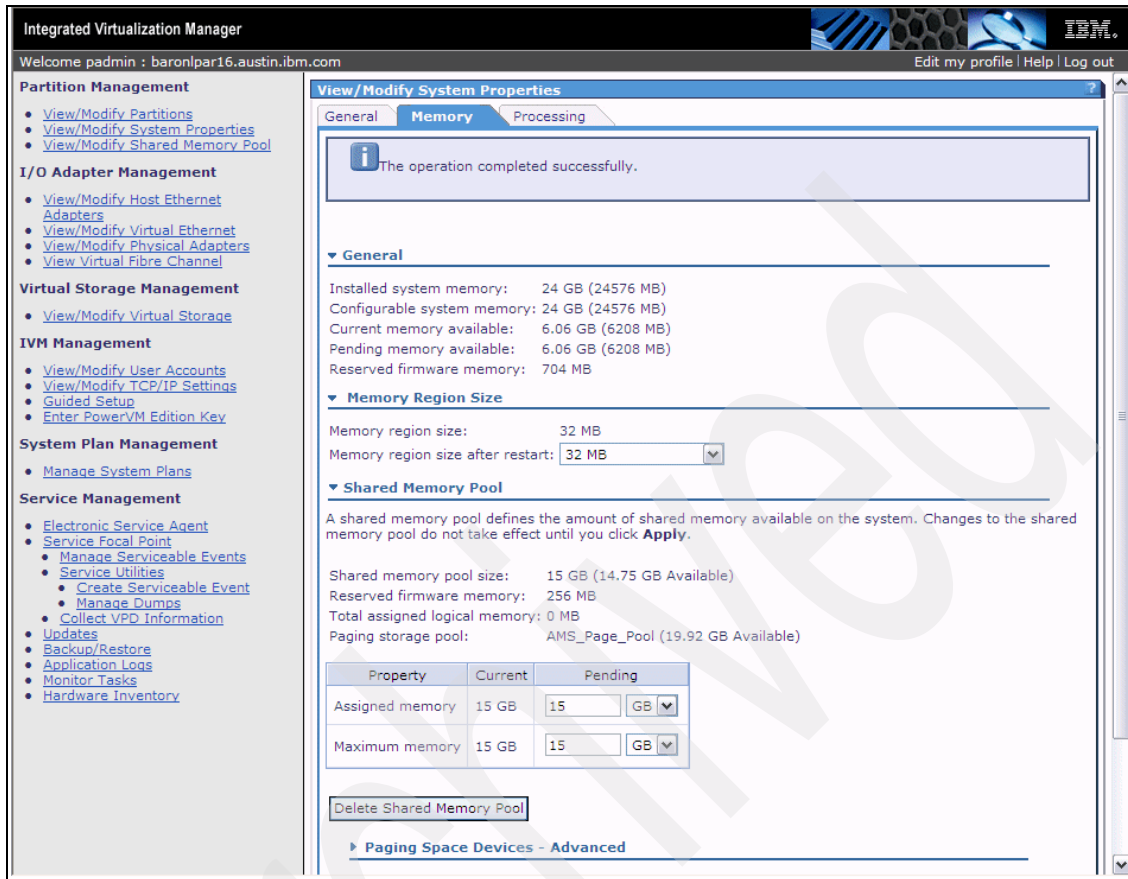

Figure 5-8 Shared memory pool information after creation
- Click **Apply** to create the shared memory pool and the assignment of the paging storage pool as shown in Figure 5-8 on page 186.